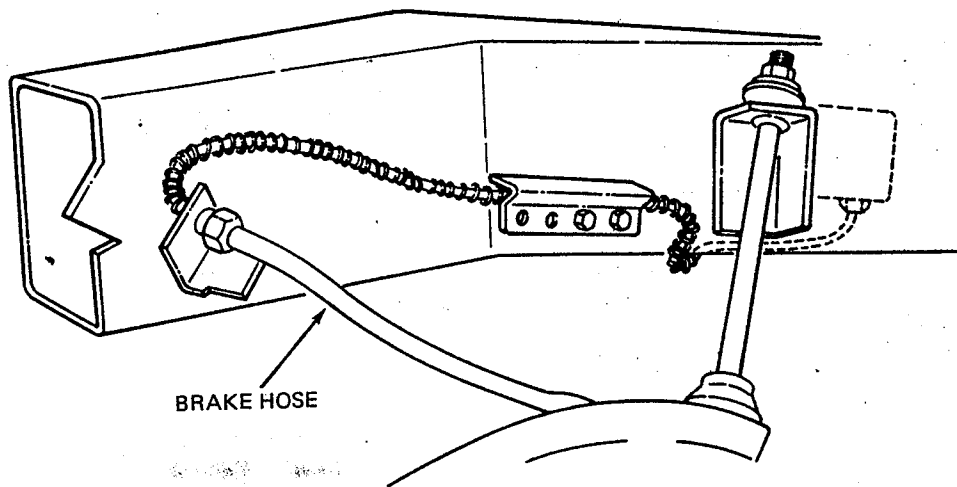

FIGURE 1-4 4-Wheel drive brake hose
**NOTE:** Refer to illustration (Figures 1-4 through 1-9).